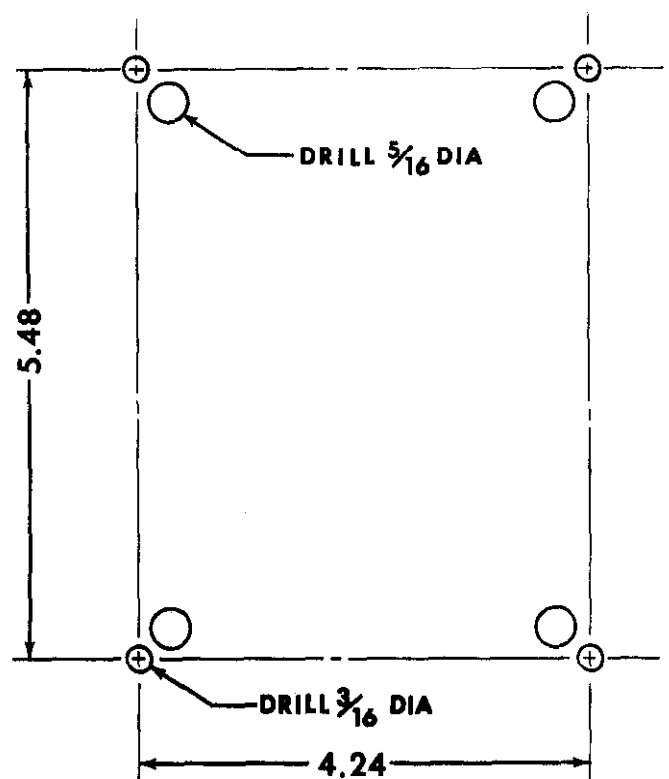

FIGURE 14. Mounting Hole Locations
c. Mounting the Base Plate. The Base Plate can be mounted on a machined surface for custom installation of the Input Head. The Base Plate is fastened to the Input Head casting using four type 6-32 x 1/4 screws. The rubber feet are attached to the base plate using type 6-32 x 1/2 Phillips Head screws and mating #6 kep nuts. (The dessicant bag is also attached using this hardware). In order to mount the Input Head Casting to a surface plate, clearance holes must be drilled in the surface plate as shown in Figure 14. The Casting can be fastened to the surface using type 6-32 screws. The rubber feet should be removed and the four screws replaced. (Note that the holes drilled should provide sufficient clearance for the 6-32 Phillips screw heads.)